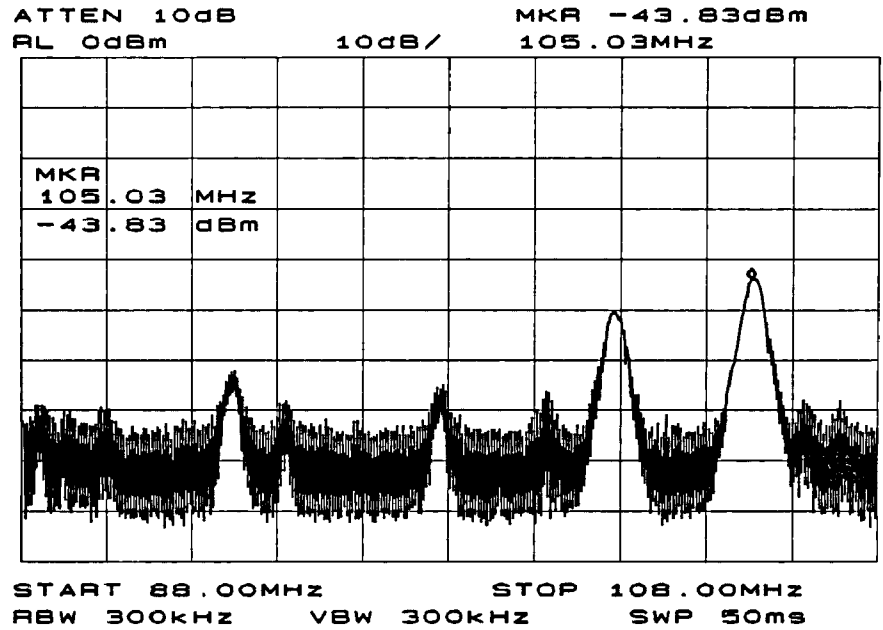

Figure 3-2. Marker Placed on a Signal to be Demodulated
2. Press **DEMODO** to view the menu of demodulation functions. Activate either **MARKER NORMAL** to move the marker to a signal of interest, or **PEAK SEARCH** to place a marker on the highest-amplitude signal. See Figure 3-2. Press **FM DEMODO** to hear the audio information. Adjust the volume using the keys in the upper right-hand corner of the analyzer.